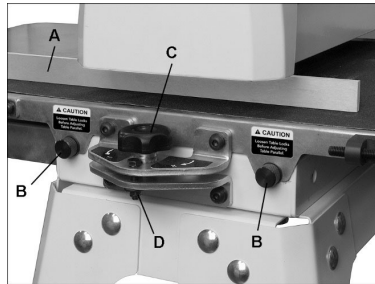

Figure 8-3: drum alignment
3. Insert gauge between drum and conveyor table at outboard side of drum (A, Figure 8-3).
7. Loosen both table locking screws (B, Figure 8-3)
3. If a ridge is visible where the drum overlaps, lower table at outboard end slightly by turning knob (C, Figure 8-3).
Note: When sanding narrow stock (less than 16"), return conveyor table to parallel position. Turn knob opposite direction until lock nut (D, Figure 8-3) is contacted. The lock nut provides a positive stop for table parallelism.